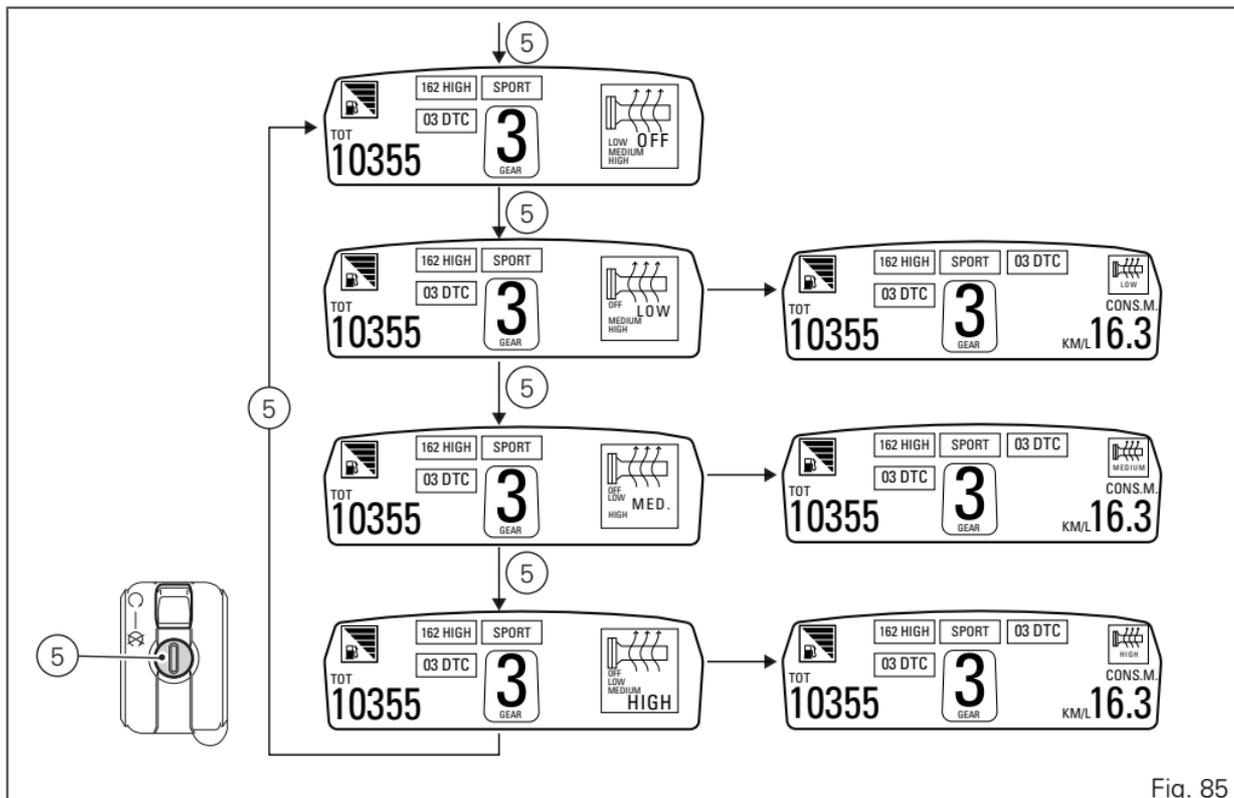

Fig. 85
- with Menu 2 enabled (Fig. 85);